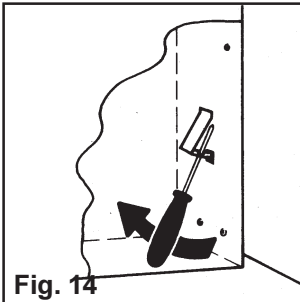

Fig. 14
- To loosen both mounting claws (installation aids), place a max 3 mm dia. Phillips screw-driver in the spring opening and simultaneously press the springs inwards (towards the appliance housing). **Fig. 14.**